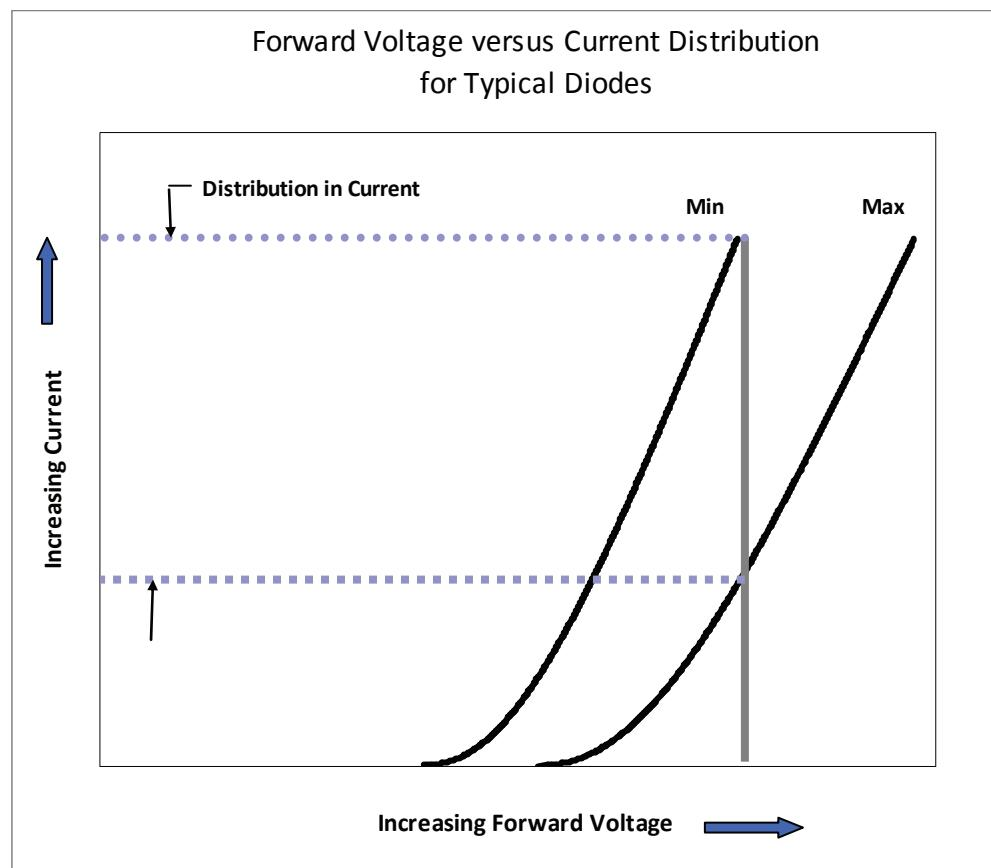

Figure 1: Distribution of forward current at constant forward voltage for a typical diode
1. The relationship between forward voltage and forward current forms a distribution of product performance. The range of the distribution is defined by minimum and maximum values and can be considered as nearly normal (Figure 1) with a minimum, typical and maximum value. The entire range of performance possibilities, not just the typical characteristics, must be considered when designing or selecting an LED driver. Output power and output voltage requirements for drivers must be designed for maximum forward voltage parts to ensure a successful design.